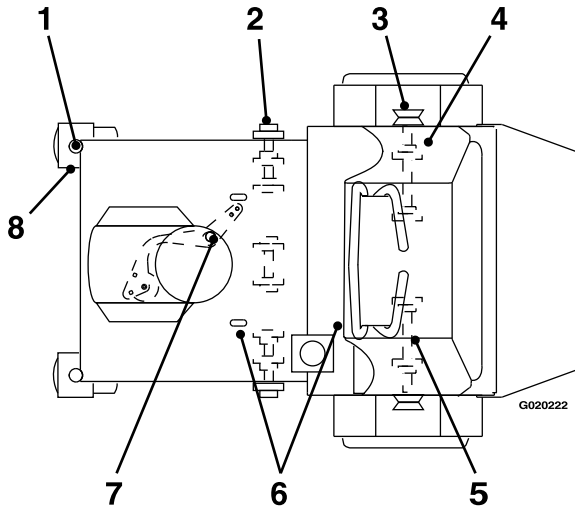

Figure 31
2. Wipe clean the grease fittings with a rag (Figure 31).
3. Connect a grease gun to the fitting (Figure 31).